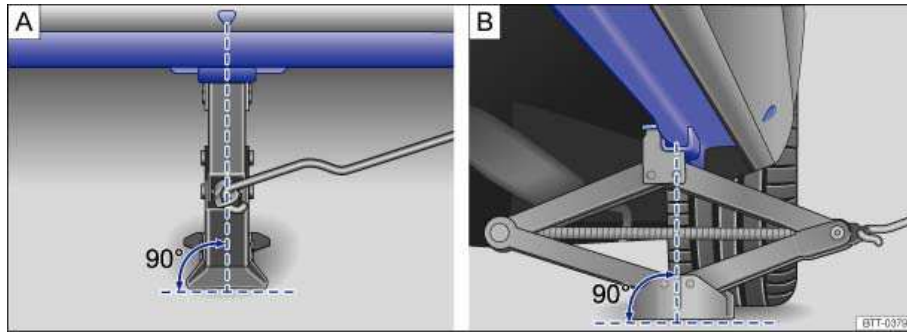

Fig. 166 Jack in position at the left rear lift point.
10. Position the jack so that its base is directly underneath the lift point ⇒ fig. 166, making sure that the entire base of the jack rests securely on the ground.